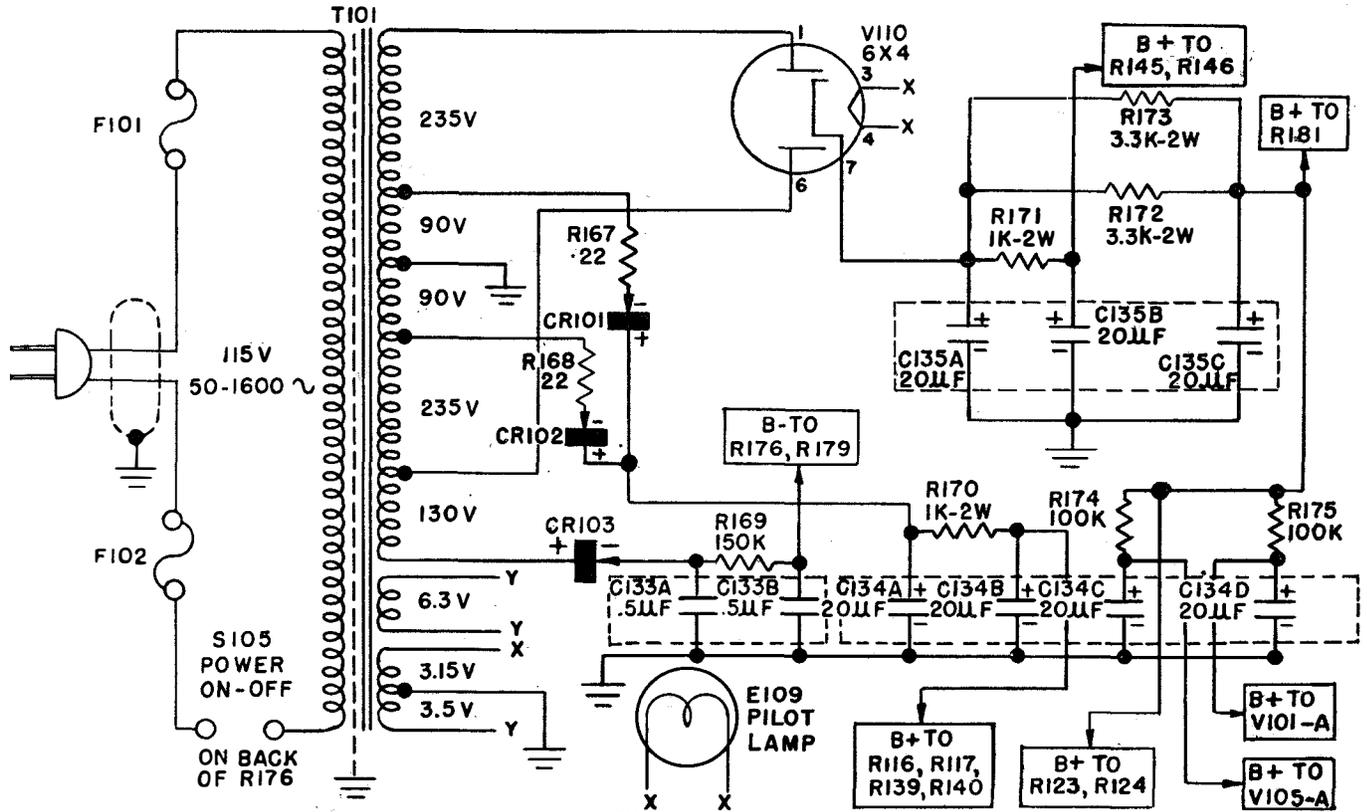

Figure 2-12. Power Supply
g. POWER SUPPLY. (See Figure 2-12)